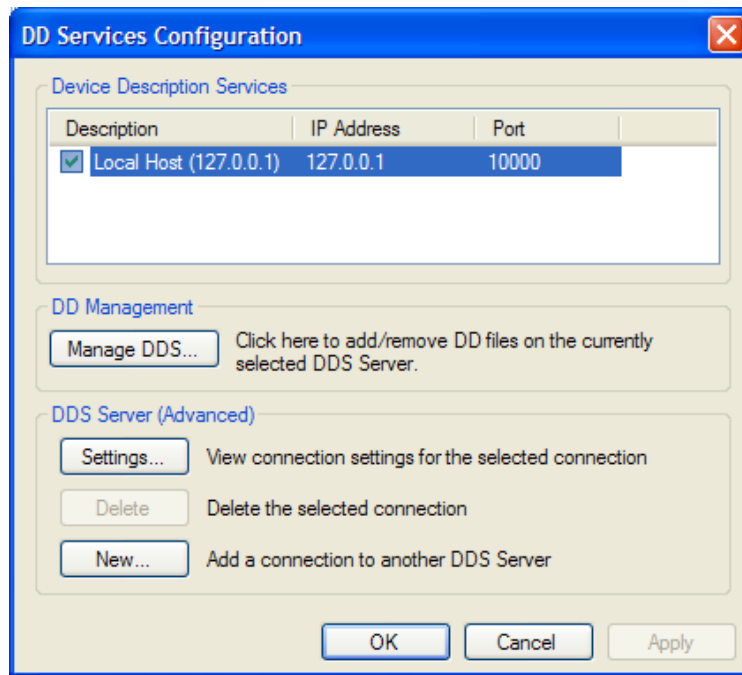

Figure 3-9. DD Services Configuration
**DD Services Settings** Select **DD Services Settings...** from the FF Settings menu bar to display the DD Services Configuration screen (see *Figure 3-9*).